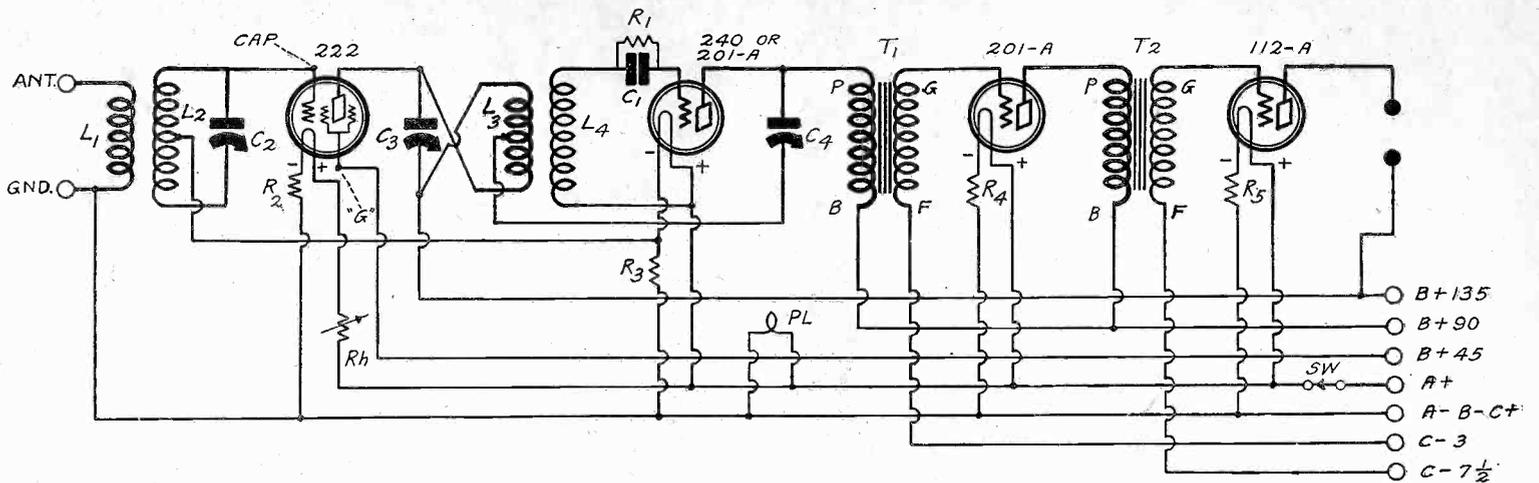

FIG. 726. THE CIRCUIT DIAGRAM OF THE UNIVERSAL SCREEN GRID DIAMOND, A VERY SENSITIVE AND SELECTIVE RECEIVER. CIRCUIT REQUESTED BY PATRICK MAHONEY.
(1)—Fig. 726 gives a diagram of a circuit such as you request. It is that of the Screen Grid Universal, which has given very good results. It was described in the December 1st, 8th and 15th issues of RADIO WORLD.